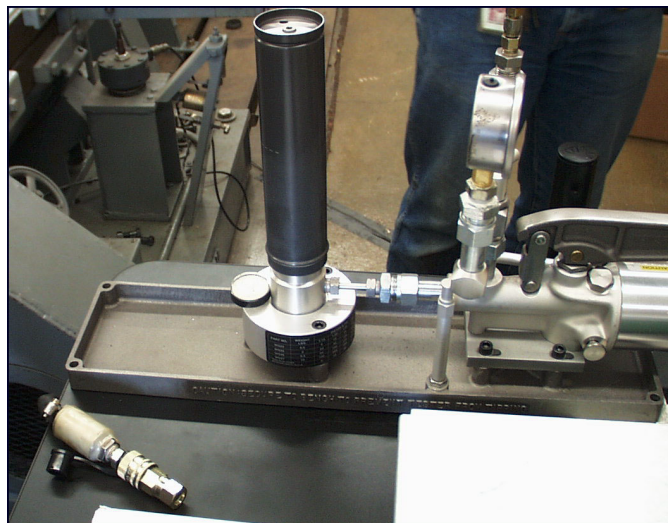

Figure 1
- 102 Ensure that the pressure determination system is level using a level and shims, if necessary. See Figure 1.